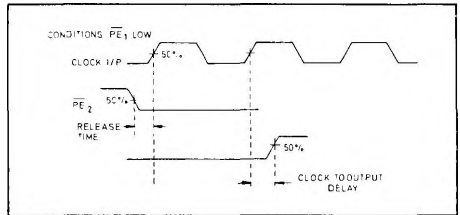

Fig. 4 Release timing diagram
- Release time is defined as the minimum time that can elapse between a H \rightarrow L transition of a control input and the next L \rightarrow H clock pulse transition to ensure that the $\bar{1}$ mode is forced by that clock pulse (see Fig. 4).